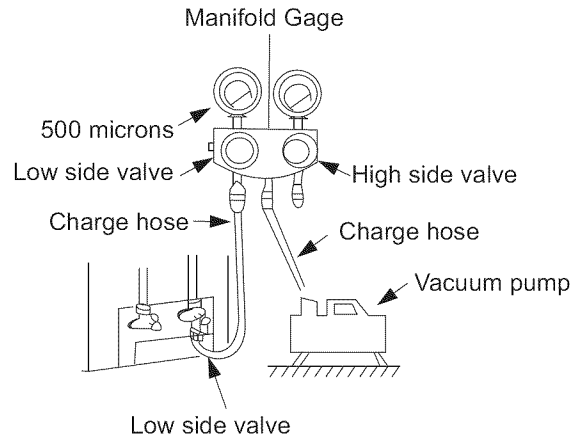

Fig. 35 - Manifold
3. Fully open the low side of manifold gage. (See Fig. 35)